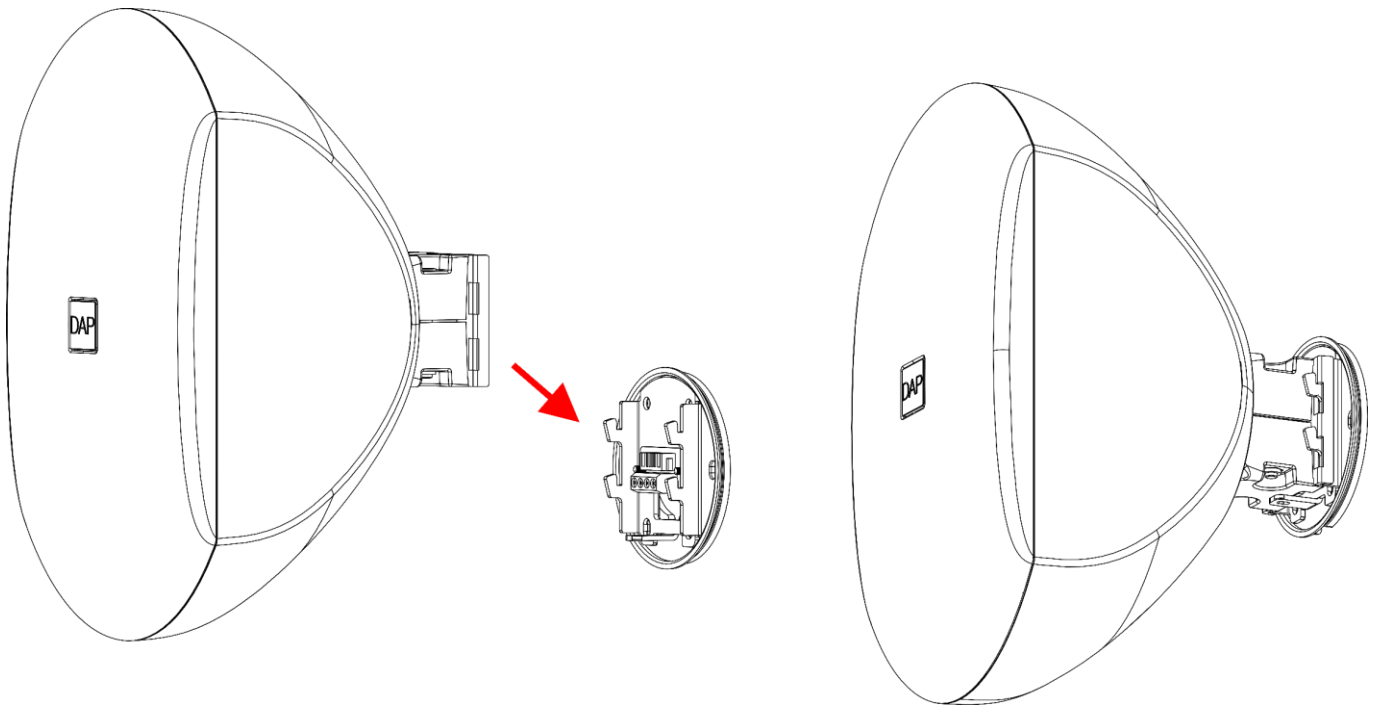

Fig. 19
- 01) Turn the **mounting screw (11)** counter-clockwise to remove it.
- 02) Hang the speaker on the **mounting plate (07)** (Fig. 19).